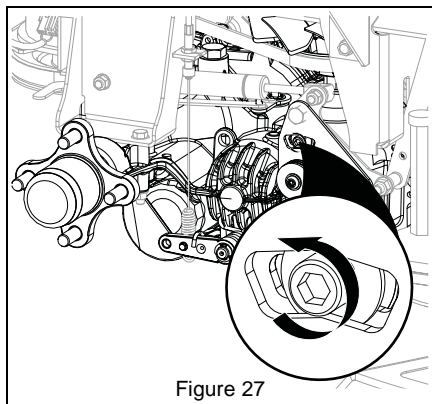

Figure 27
1. Loosen the return-to-neutral screw on the transaxle. See Figure 27.